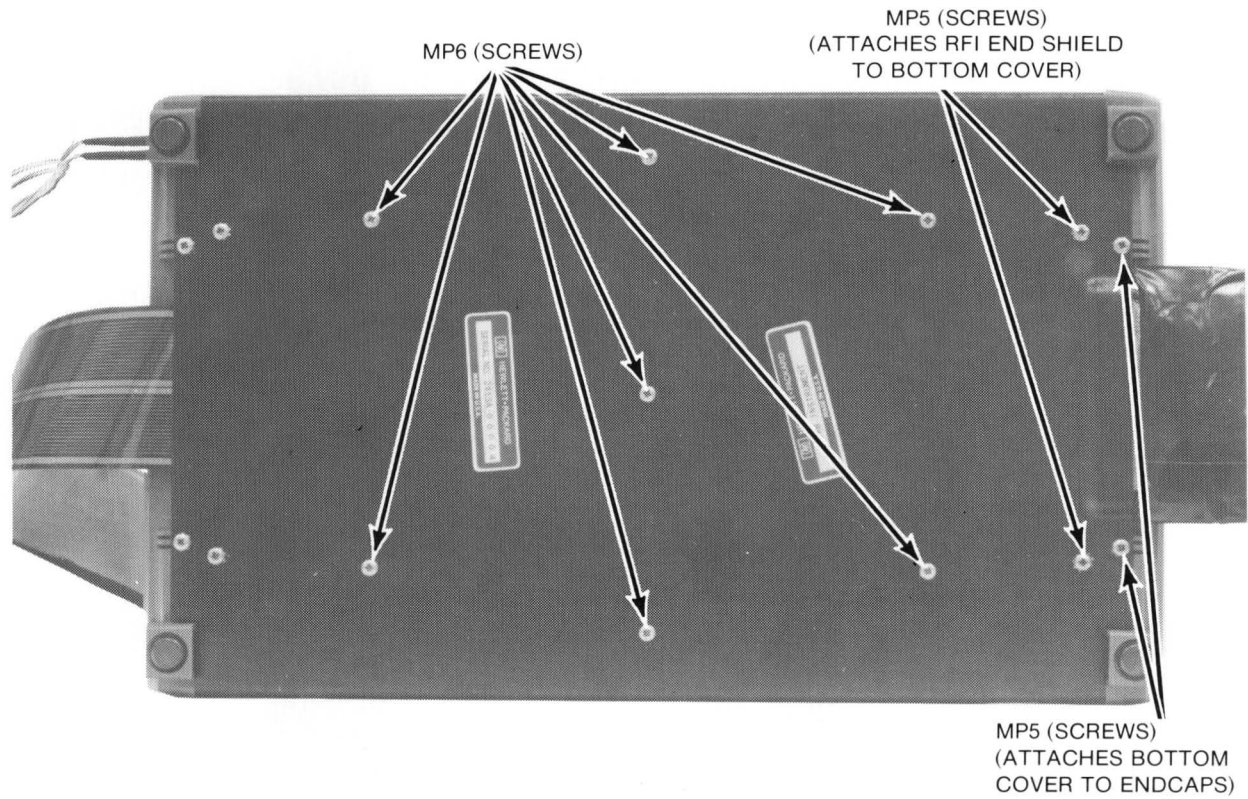

Figure 2-7. 80186 Emulator Pod Bottom View
- e. Turn over the emulator pod and remove the two screws (MP5) at each end of the pod which are nearest the rubber bumper feet. Refer to figure 2-7.
- h. The metal RFI shields are removed from the pod bottom cover by removing the two screws securing each shield to the cover (MP5, see figure 2-7). (Note: do not remove these screws unless it is absolutely necessary to fully disassemble the pod.)
- i. Remove the emulator PC boards (A1 & A2) by removing the 7 screws securing the board spacers to the pod bottom cover (MP6, see figure 2-7).
e. Reattach the pod boards to the bottom cover by placing the folded board set inside the bottom cover and inserting the 7 screws (MP6; figure 2-7) from the outside of the cover. The A2 board should be closest to the bottom cover and the user cable should pass over the end of the bottom cover which has the protective rubber trim strip (A3MP1).
3. Place the pod top cover over the pod bottom cover; insert and tighten the four screws (MP5; figure 2-7) nearest the pod bumper feet.